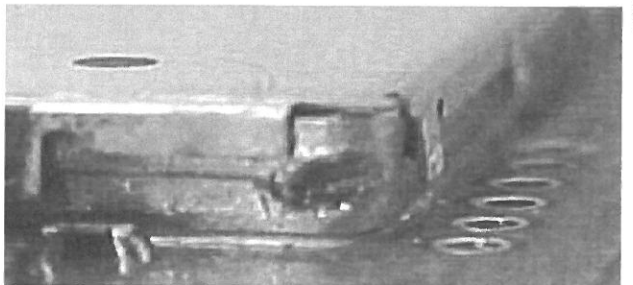

Figure 9-26
- Cracks in shield material, Figure 9-26.